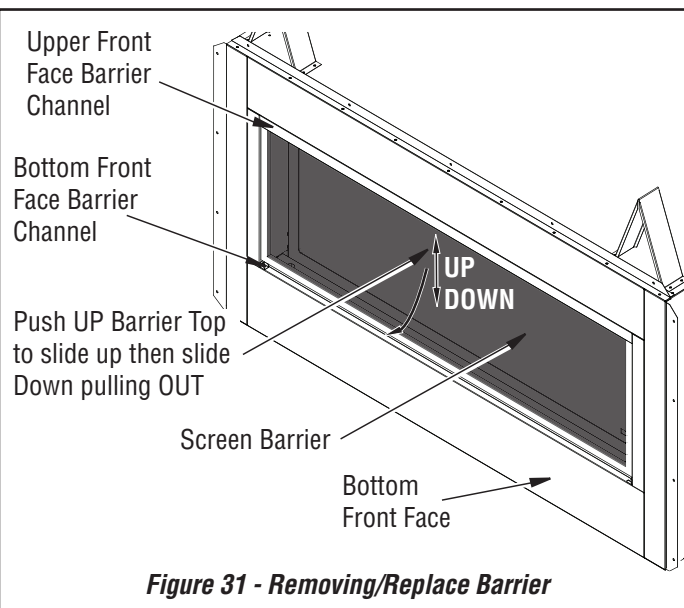

Figure 31 - Removing/Replace Barrier
1. To remove barrier, push barrier top up to slide it up then slide down pulling barrier out (see Figure 31).
2. Install the barrier by sliding in into the top channel with the flat side toward the fireplace, then swinging the base of the barrier into the bottom channel and lowering it into place (see Figure 31).